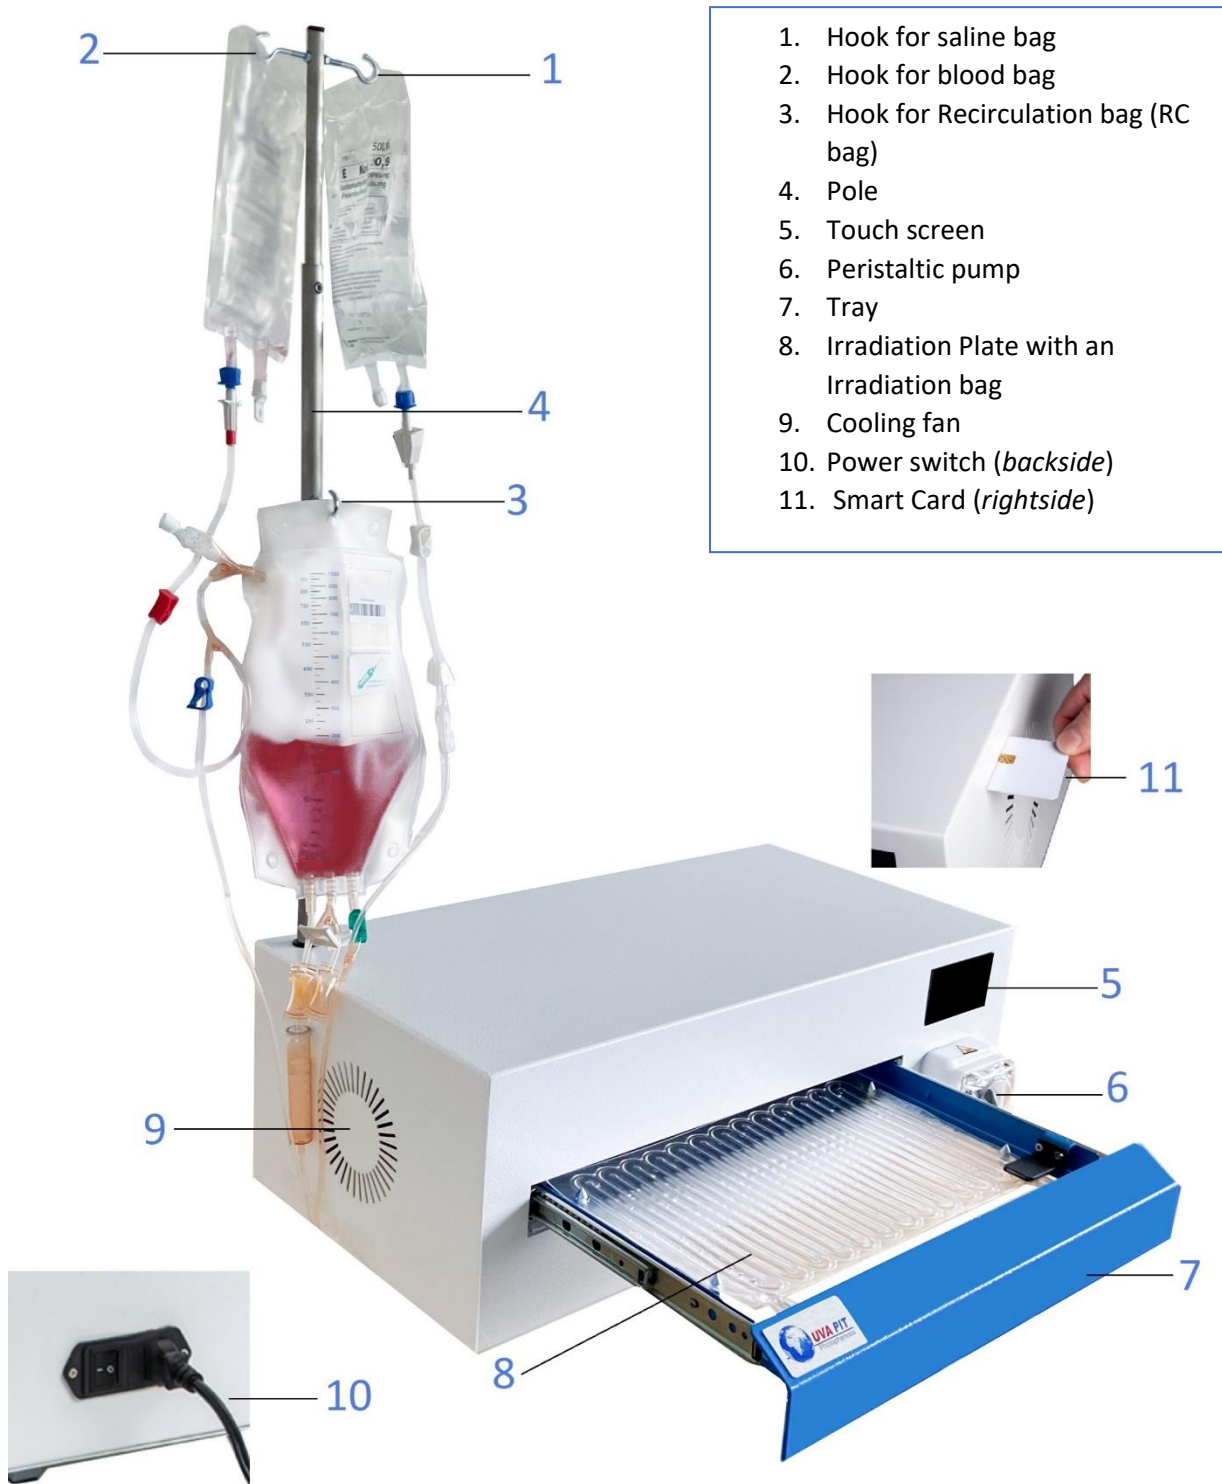

Figure 1: Components of the UVA PIT System
- Position the RC bag on the lower hook of the pole (see above Fig. 1, No. 3).
- Remove the cover from the spike on the buffy coat line (Fig. 2, No. 1; the spike connector is red). Spike the cell product bag with the spike or connect it with a sterile connection device and place it on the left upper hook (Fig 1, No. 2).